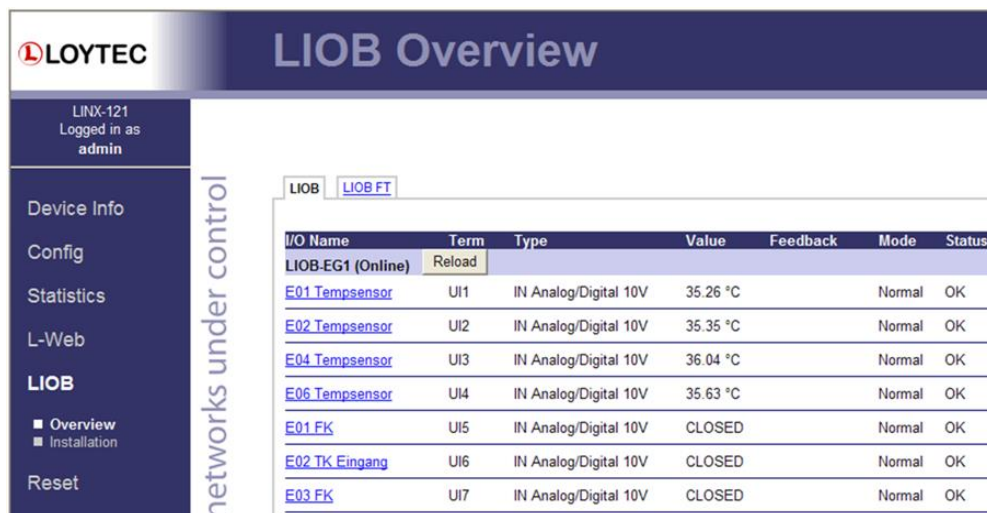

Figure 21: Test L-IOB inputs and outputs on the Web UI.
- After downloading the L-INX configuration into the L-INX device, the L-IOB input and output terminals can be tested with the L-INX Web UI. An example is shown in Figure 21.